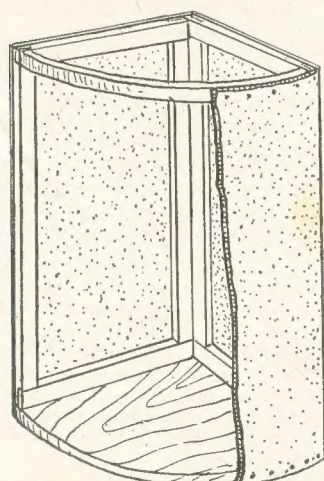
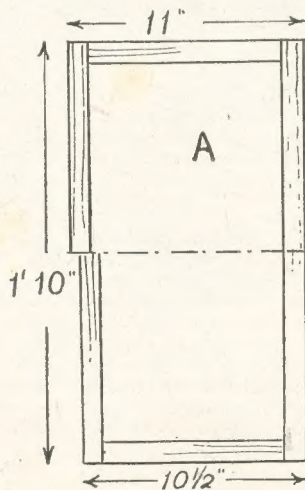

Fig. 2—Constructional details
Fig. 1—Side frames and bottom, with joint detail
Details of the sides and bottom are given in Fig. 1 and diagram. Fig. 2 shows the general build up of the article. First make up a couple of light wood frames to dimensions given in Fig 1 (A). These are constructed from $\frac{1}{2}$ in. by 1 in. wood strips and joined together at the corners with the simple halved joint, shown at (C), which every reader is well acquainted with, we think.
The sides and curved front of the basket are covered with cardboard, as in the constructional detail in Fig. 2. You can, of course, buy a sheet or two of cardboard for this part of the work, or if you feel like being economical, use the cardboard from grocers' containers,
As a rule these have a curved structure with three bars, two each side and one in the centre. Remove the bar from what will be the back and leave the centre and front one. Shoes will then rest with heels on middle rail and soles on outer rail (see Fig. 1). If you want more space then add another set of bars between the existing sets. Give a coat of stain and the fitment can stand in any odd corner.
The board for this (shown in Fig. 2) can be $\frac{3}{4}$ in. thick or made from panel board with a 1 in. square edge, rounded at the corners. Use panel fine pins for fixing. The top could be linoleum covered to save damage from water, and if possible fix it at window level. It can, space permitting, extend out about 3 ins. from the wall or alcove.